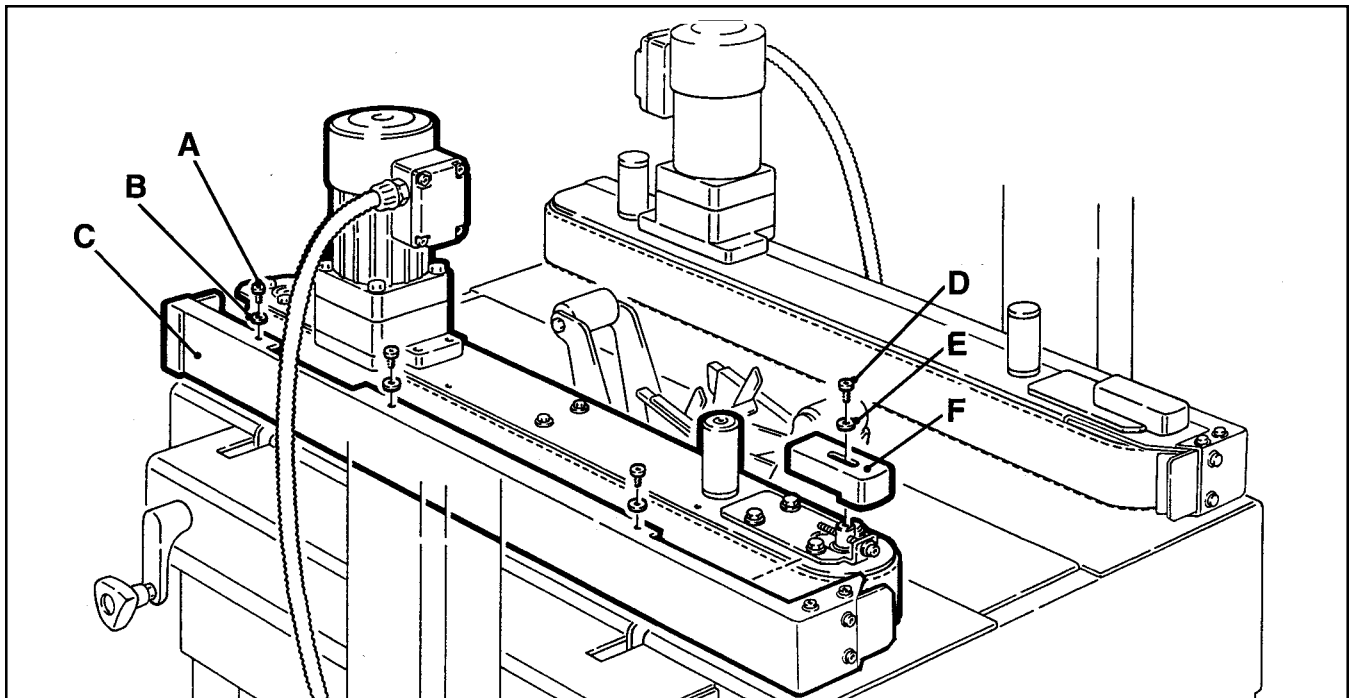
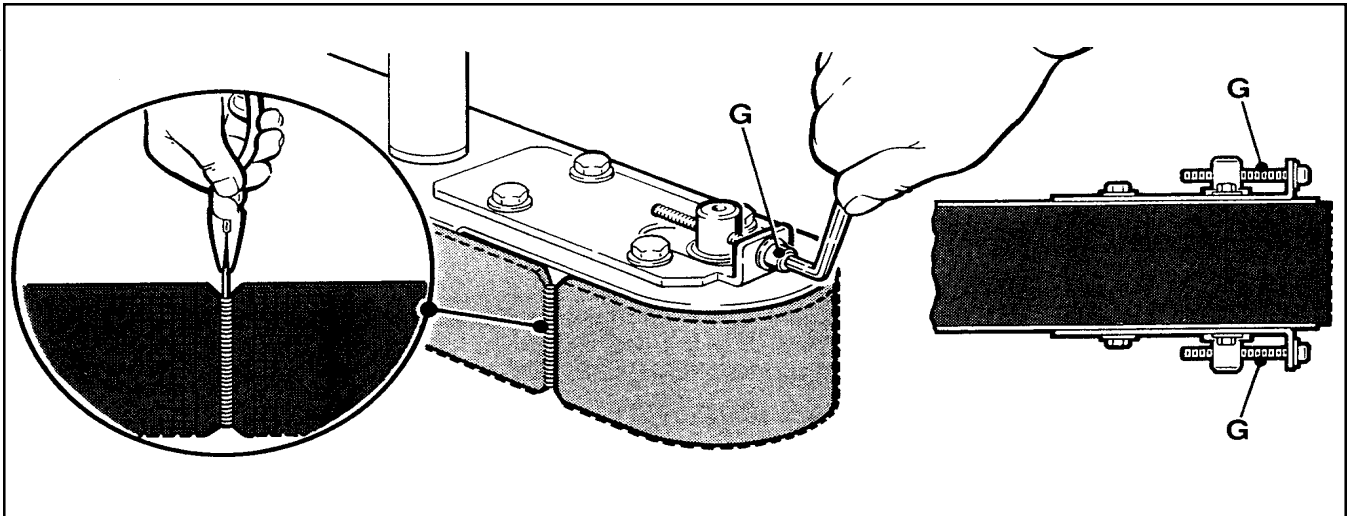

Figure 4-2 – Box Drive Belt (Left Side View – Infeed End)
Figure 4-3 – Box Drive Assembly, Infeed End
2. Remove and retain the three screws (A), three washers (B) and side cover (C). See Figure 4-2.
3. Remove and retain the screw (D), washer (E) and belt tensioner cover (F).
4. Turn belt adjustment screws (G) counterclockwise on both the upper and lower tension assemblies until belt is loose. See Figure 4-3.
7. To set drive belt tension, turn adjustment screws (G) equally on both the upper and lower tensioning assemblies. Turn the screws clockwise to increase tension or counterclockwise to decrease tension. See Figure 4-3.
8. Reverse procedures in Steps 1-3 (Figure 4-2) to reassemble the drive belt assembly.